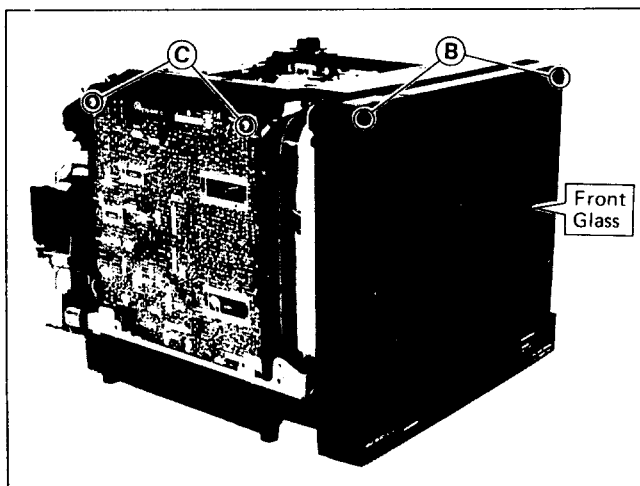

Fig. 7-6
Remove the two screws (B) shown in Fig. 7-6, then remove the Front glass from the Front panel.
1. Measure voltage and waveform of the signal PB by positioning the unit in the condition shown in Fig. 7-6. When parts replacement is required, remove the two screws (C) shown in Fig. 7-6.